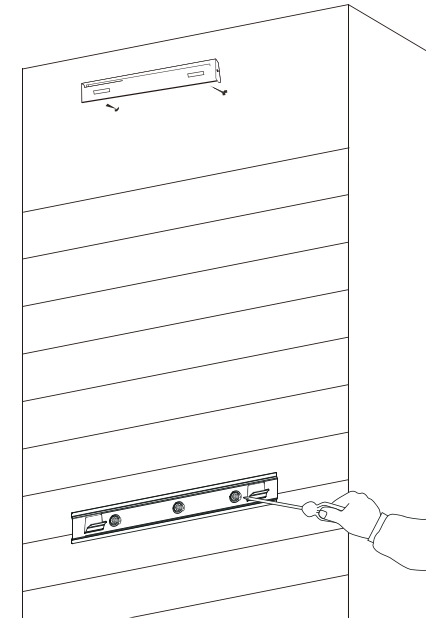
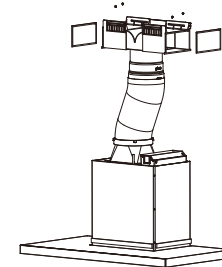

Fig7
Fig. 9
3. Install the flue cover mounting and wall brackets with screws to the wall as marked (Fig. 7). Please mounted recirculating T pieces together with flue cover bracket if recirculating mode is used. (Fig. 9)
5a. Recirculating mode (Fig. 9).
According to the flue cover dimension, fix the T-piece by 4 screws. Supplied. Adhesive two sponges to the outlet of T-piece as shown (Fig. 9)